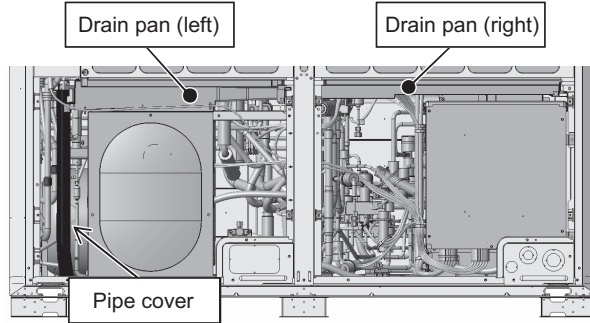

Figure 2
- (3) Remove the cable straps holding the weak and strong electrical wirings. (See Figure 2.)
- (5) Remove the drain pan cover by unscrewing the screw and cutting the cable tie. (See Figures 2 and 3.)
- (6) Remove the drain pan by unscrewing the two screws. (See Figure 2.)
Be sure to remove the two rod holders holding the check joints to the drain pan. (Figures 2 and 3 show the cable ties to be cut.)
- (2) Remove the drain pan cover by unscrewing the screw and cutting the cable tie. (See Figures 2 and 3.)